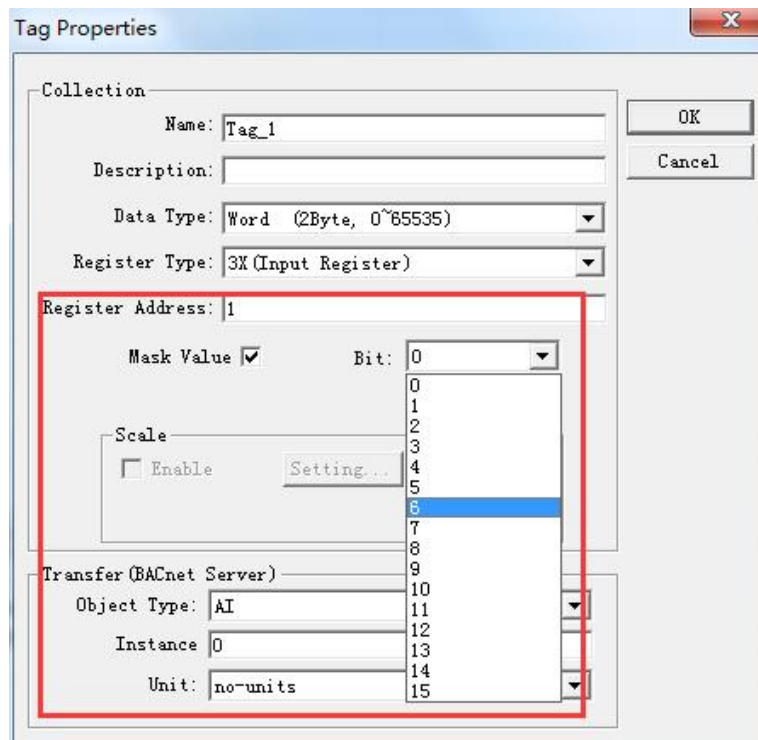

Figure 2-4-6 Select a Bit
- **Mask Value:** Check single box “Mask Value” to pick up a bit from 0 to 15 of some register if necessary,as the following Figure 2-4-6 shows.